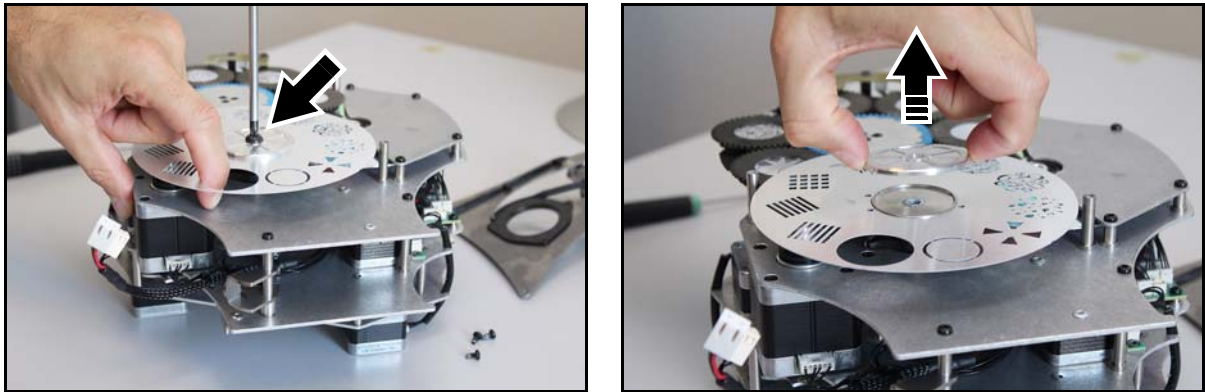

Figure 16: Releasing the static gobo wheel
4. The static gobo wheel is delicate. Do not apply any pressure that might bend it. See Figure 16. Holding the wheel with a finger through the open slot to prevent it rotating, remove the Torx 30 screw from the